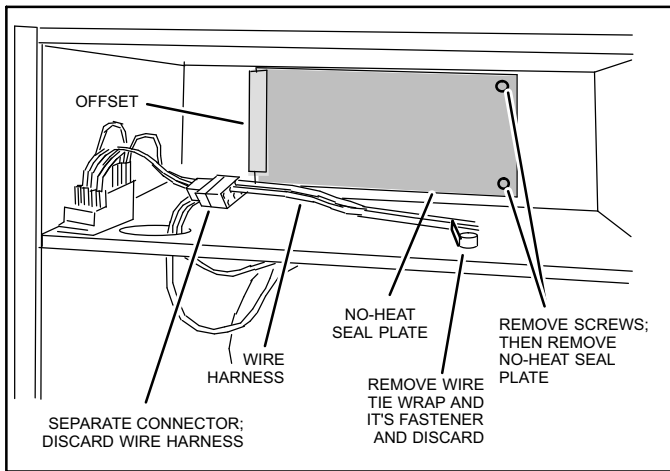

Figure 1. Prepare to Install Heat Element
4. Remove the no-heat seal plate in the air handler frame. See figure 1.